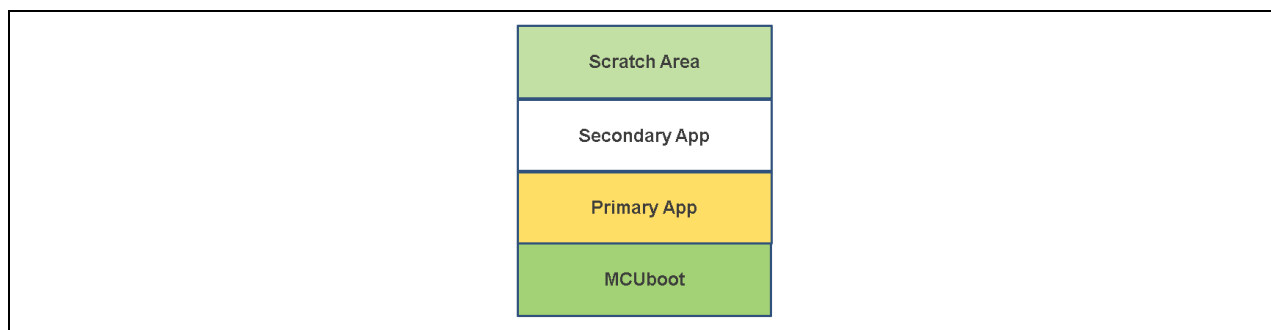
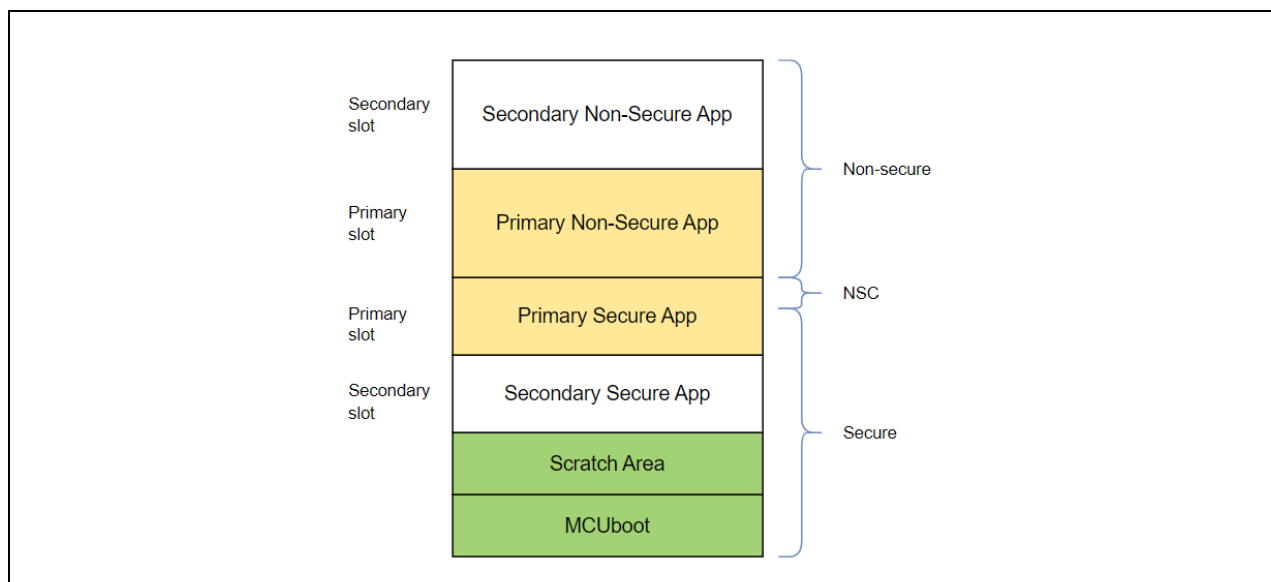

Figure 1. Single Image MCUboot Memory Flash Map
Figure 2. Two-Image MCUboot Module Memory Map (TrustZone)
For applications using MCUboot, the MCU memory is separated into MCUboot, Primary App, Secondary App, and the Scratch Area. Figure 1 is an example of the single-image MCUboot memory map. For more information on the MCUboot memory layout, refer to the Flash Map section of the MCUboot website.
For single-image projects, refer to Figure 1 from section 1.2.1 to see the default memory map layout. For applications with two separately updateable images, such as TrustZone® applications where the Secure and Non-Secure images can be updated separately, the default memory map layout is shown in Figure 2.
- Develop the bootloader and analyze the MCU memory resource allocation needed for the bootloader and the application. The bootloader memory usage is influenced by the application image update mode, signature type, and whether to validate the Primary Image. The bootloader maintains a memory map of all the different images shown in Figure 1 and Figure 2.